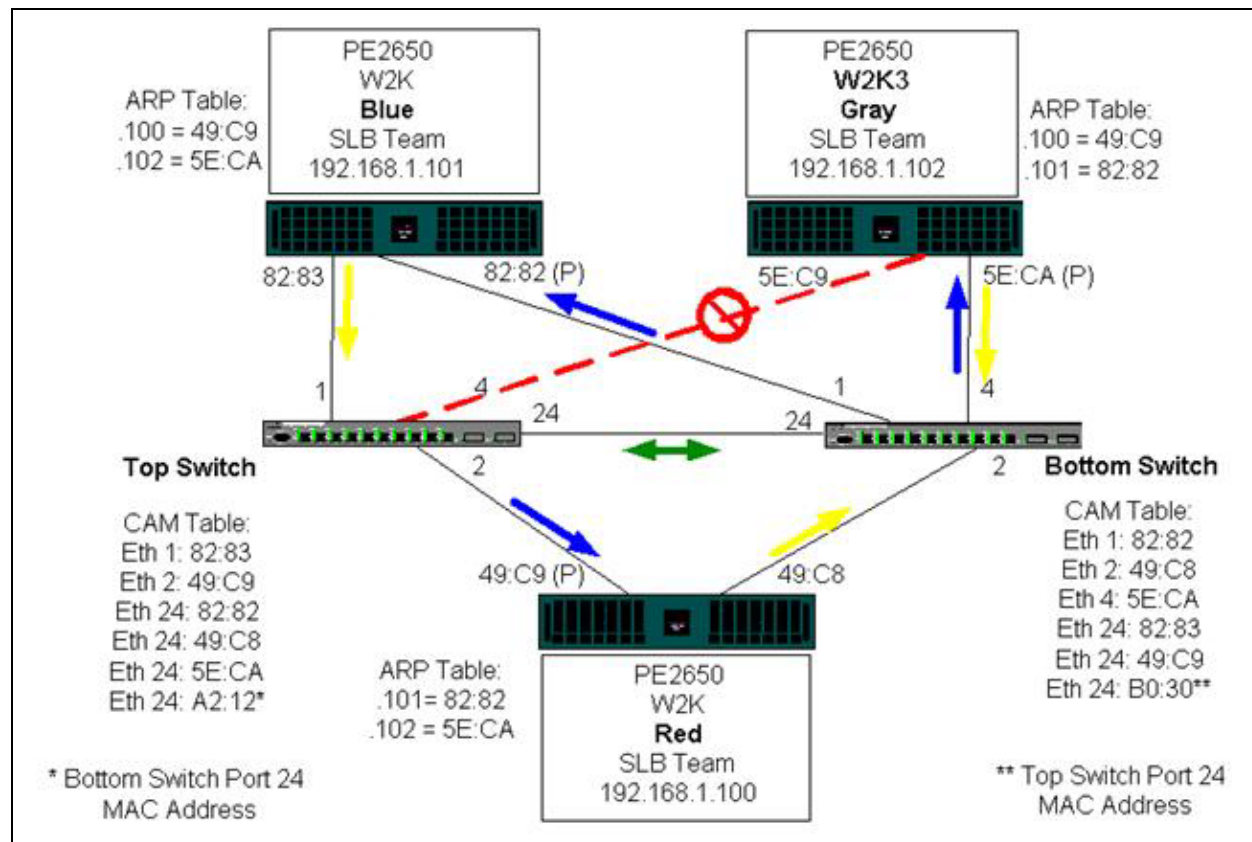

Figure 11-5. Failover Event
- Figure 11-5 is an example of a failover event with the Interconnect cable in place.
Figure 11-5 represents a failover event in which the cable is unplugged on the Top Switch port 4. This event is a successful failover with all stations pinging each other without loss of connectivity.